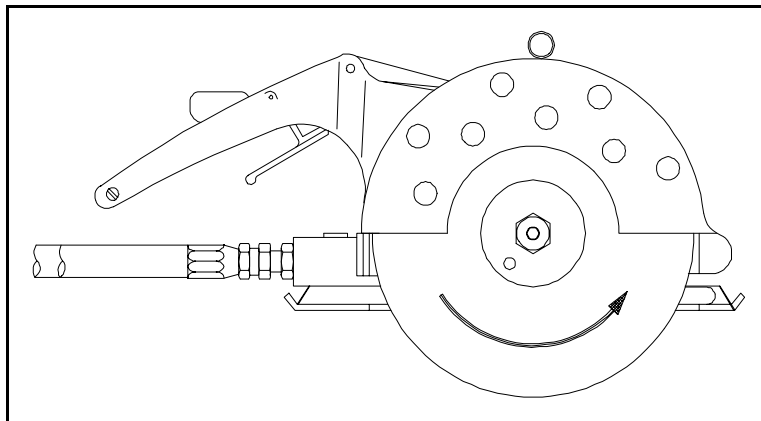

Figure I-2. Blade Rotation.
- o. Verify proper wheel rotation as shown in Figure I-2.